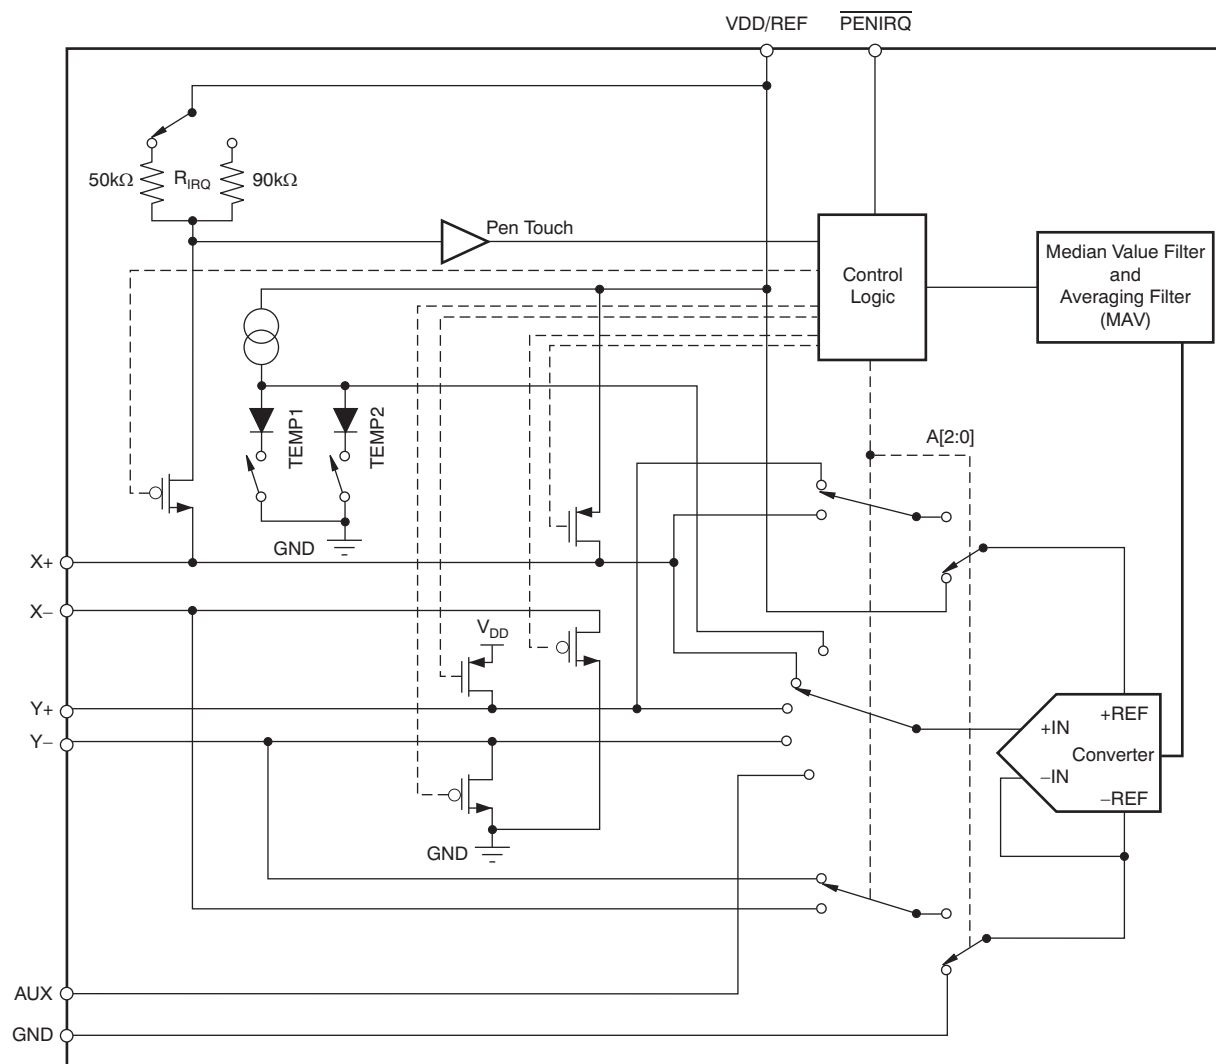

Figure 25. Analog Input Section (Simplified Diagram)
Figure 25 shows the analog inputs of the TSC2008-Q1. The analog inputs (X, Y, and Z touch panel coordinates, chip temperature and auxiliary inputs) are provided via a multiplexer to the Successive Approximation Register (SAR) analog-to-digital converter (ADC). The A/D architecture is based on capacitive redistribution architecture, which inherently includes a sample-and-hold function.
Addressing and Command Decoding—The next three bits in the control byte following the start bit are three addressing bits A[2:0] used to select the active input channel(s) of the input multiplexer (see Table 4 and Figure 25), enable the touch screen drivers, select the reference inputs, or decode other commands.
SER/DFR —The SER/DFR bit controls the reference mode: either single-ended (high) or differential (low). The differential mode is also referred to as the ratiometric conversion mode and is preferred for X-Position, Y-Position, and Pressure-Touch measurements for optimum performance. The reference is derived from the voltage at the switch drivers, which is almost the same as the voltage to the touch screen. In this case, a reference voltage is not needed because the reference voltage to the A/D converter is the same as the voltage across the touch screen. In single-ended mode, the converter reference voltage is always the difference between the VREF and GND pins (see Table 4 and Figure 25 through Figure 27, for further information).
- (1) Reference voltage at converter: +REF – (–REF). See Figure 25.